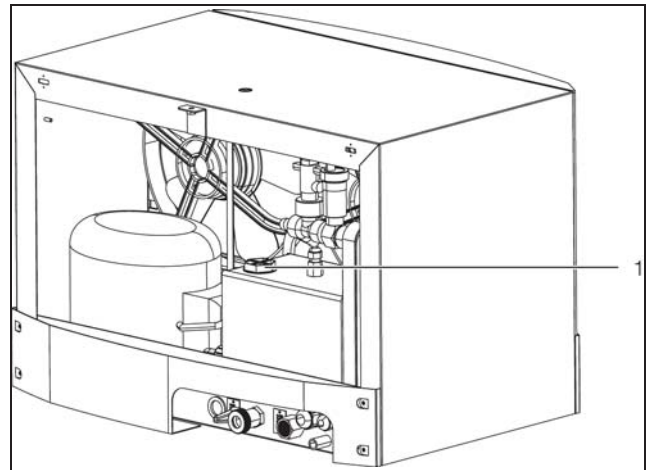

Fig. 52: Filling the cooling medium (3318.610 and 3319.610)
- Fill the chiller with cooling medium via the fill nozzle (fig. 52, item 1) in the tank.